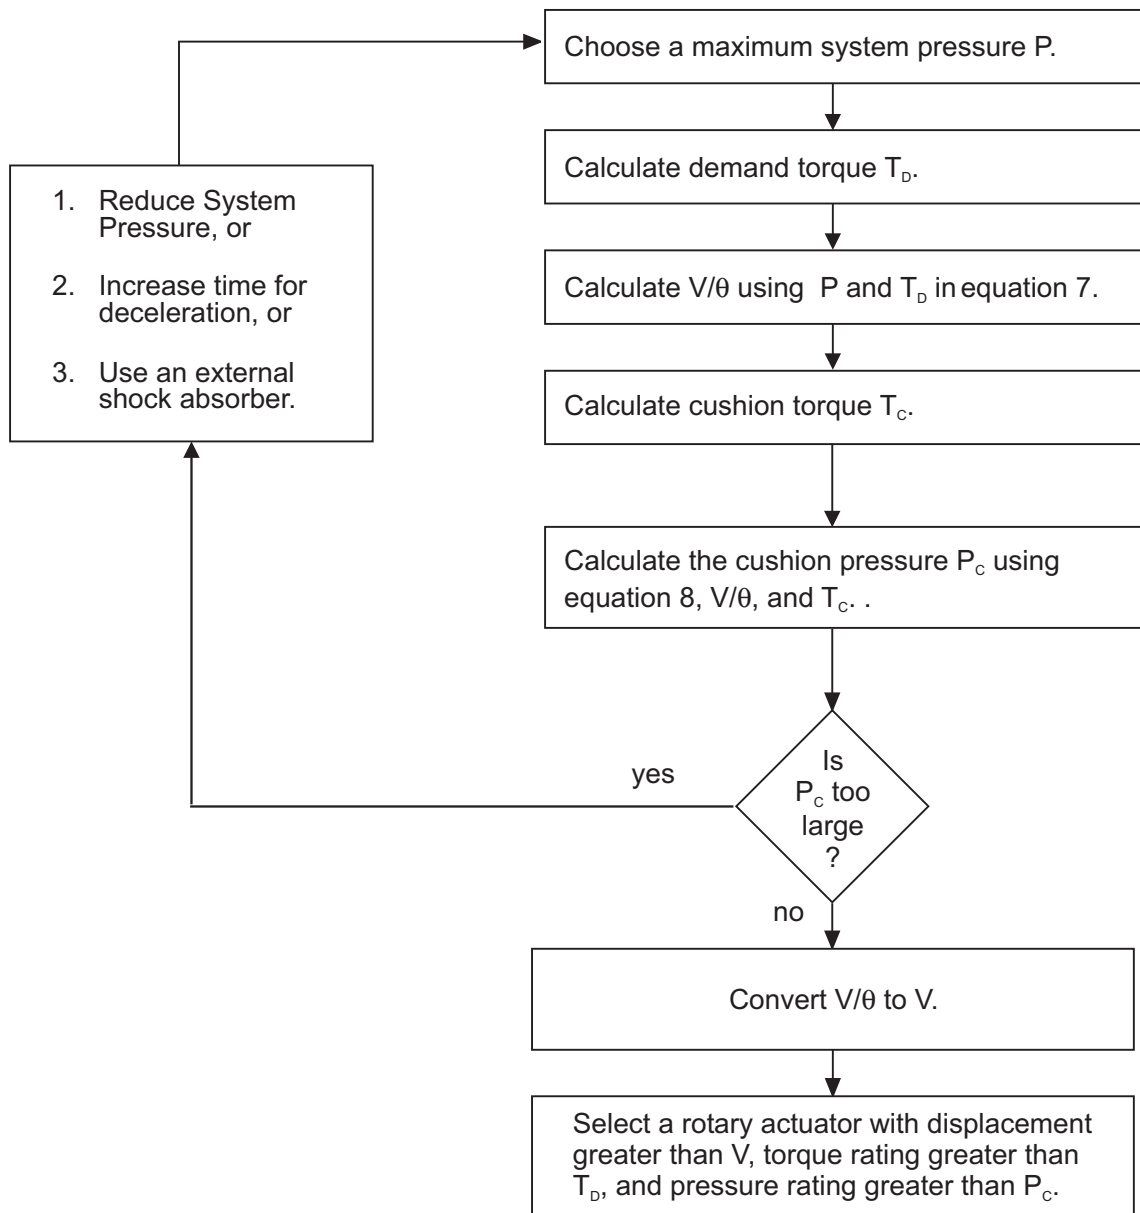

Figure 11: Flow chart for selecting a minimum volume actuator. See example problem page 23.
The smallest rotary actuator displacement, that can be used in an application, is that displacement which can both deliver sufficient torque to move the load and also withstand the pressure required to stop the load. (Recall that cushion torque is generated by back pressure that is often greater than system pressure.) A method of determining the smallest rotary actuator displacement is summarized in Fig. 11 and outlined step-by-step below. (Also see the example problem on page 23.)
**Solution:** Use the flow chart Fig. 11, on page 20.